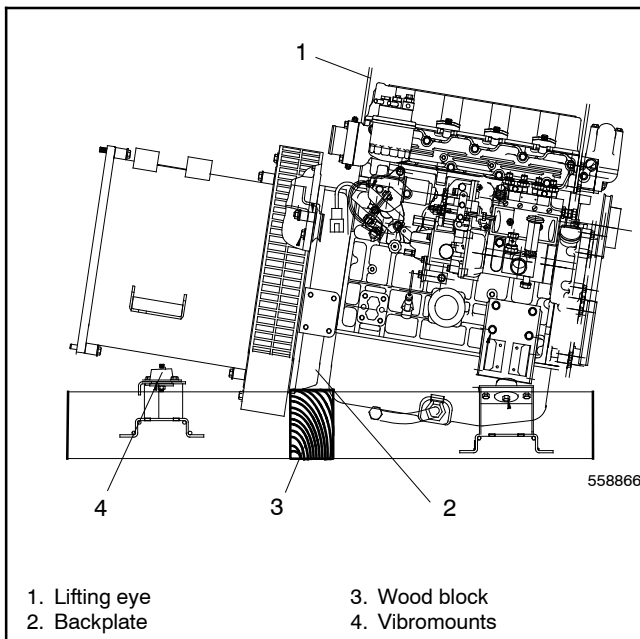

Figure 15-5 Supporting the Generator, Typical
6. Attach a hoist hook to the engine lifting eye. See Figure 15-5.
7. Remove the vibromount locknut, small washer, bolt, and large washer from each vibromount. See Figure 15-5.
8. Raise the alternator end and place a wood block under the backplate. Lower the alternator until the wood block supports the backplate. See Figure 15-5.